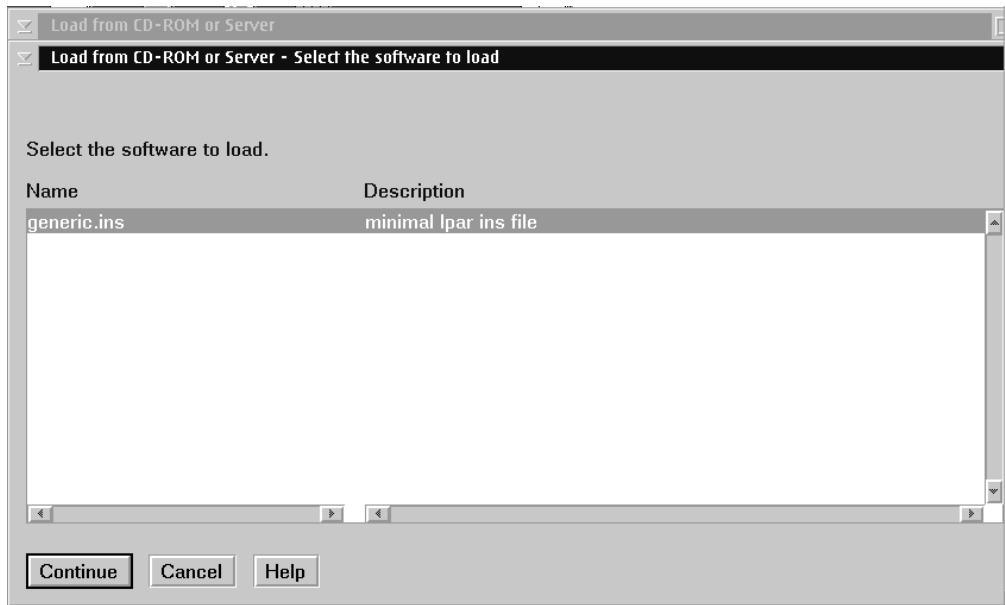

Figure 76. Select the software to load panel
7. Click **Continue** to display the “Select the software to load” panel (Figure 76 on page 372).